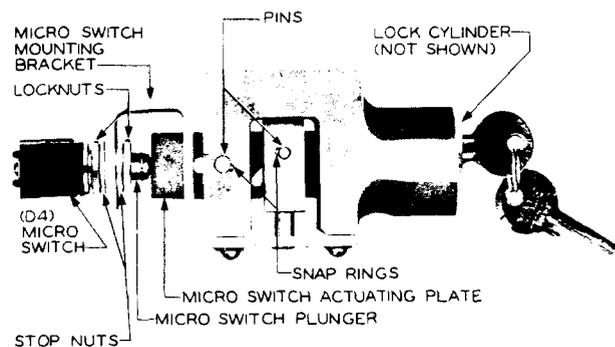

Fig. 31 - Carriage and Power Switch Lock (underside of table)
3.61 Lock Cylinder: Fig. 31
3.62 Lock Micro Switch (D4): Fig. 31